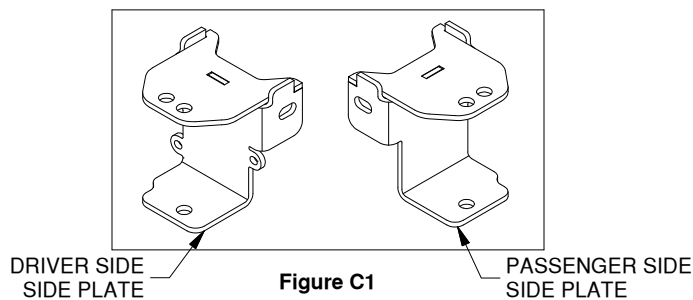

Figure C1
- 1. Install side plates.** Using Figure C1, determine the driver and passenger side plates. Place the appropriate side plate on the inside of the frame with the small flanges fitting between the cross members. The top long flange will sit on the upper leg of the frame with the bottom long flange sitting on the top of lower leg of the frame. With each side plate in place insert carriage bolts through the square holes in the cross members and through the small flanges on the side plates. Place a flat washer, lock washer and nut on the bolts and leave loose at this time. Next, place a 5/8" x 1-1/2" bolt with a flat washer and frame spacer, as shown in Figure C2 & C3, through the oval holes in the frame. Two will go through the bottom frame leg using a 1/4" frame spacer and two in the top frame leg using a 1/8" frame spacer. After passing through the frame and side plate install a lock washer and nut.